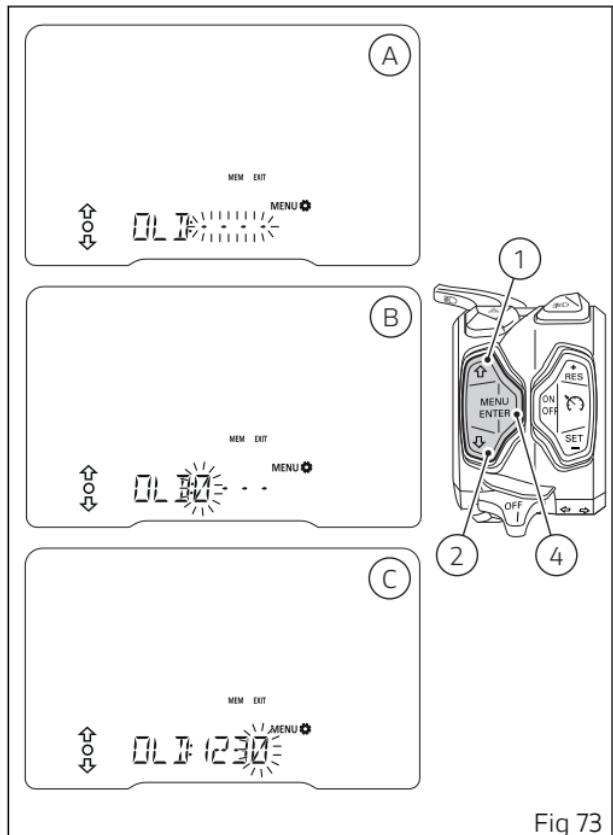

Fig 73
When you press button (4) to confirm the fourth and last digit (C, Fig 73), the instrument panel responds as follows:
- if the PIN is not correct, the instrument panel shows "WRONG" flashing for 2 seconds. After these 2 seconds, EXIT is selected (flashing frame). Now press button (4) to quit PIN CODE modification function or use buttons (1) and (2) to select and try again to enter the old code (A, Fig 73)